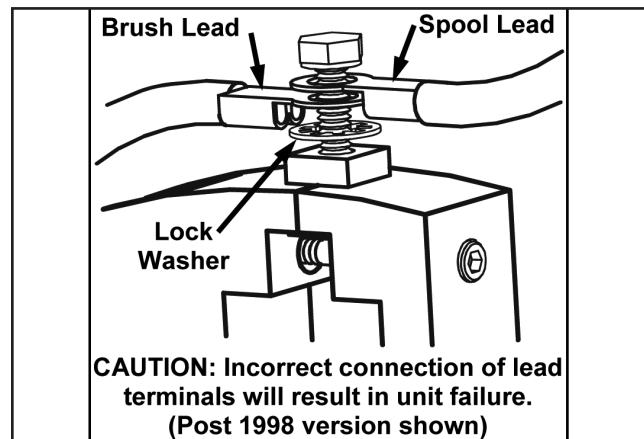

Figure 14-2
3. Disconnect the Spool Cable Connections from the Slip Ring Brush Terminals. Mark/Note the existing cable connections. See **Figure 14-2**.